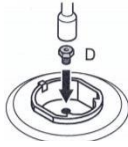

Figure 12.2
Fix the injector (D) to be converted as shown in the Figure 12.2.